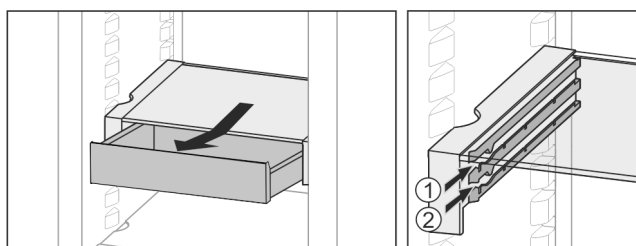

Fig. 29
- ▶ Slide back at the height you want *Fig. 29 (1)* or *Fig. 29 (2)*.